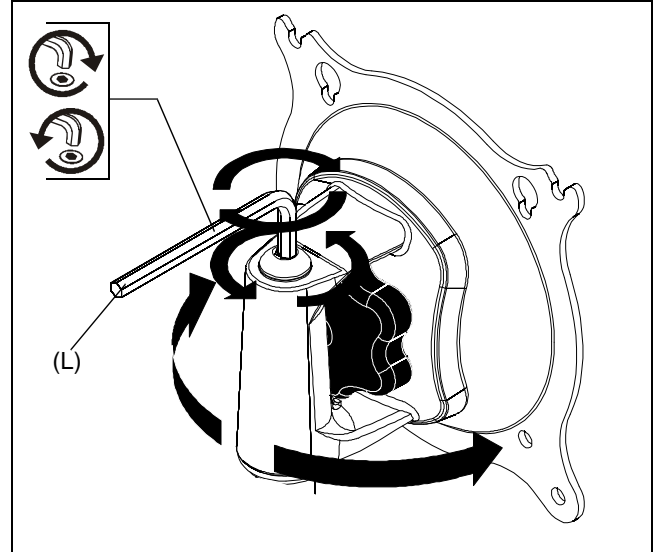

Figure 7
1. Using 3/16" hex wrench provided (L), turn adjustment screw clockwise to increase tension or counter-clockwise to decrease tension. (See Figure 7)